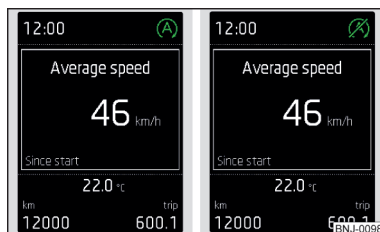

Fig. 125
If, after stopping the vehicle, the check icon (X) » Fig. 125 appears on the display, then the conditions for automatic engine shutdown are not met.
Automatic engine shutdown then occurs and the indicator symbol appears in the display  » Fig. 125 on page 124.